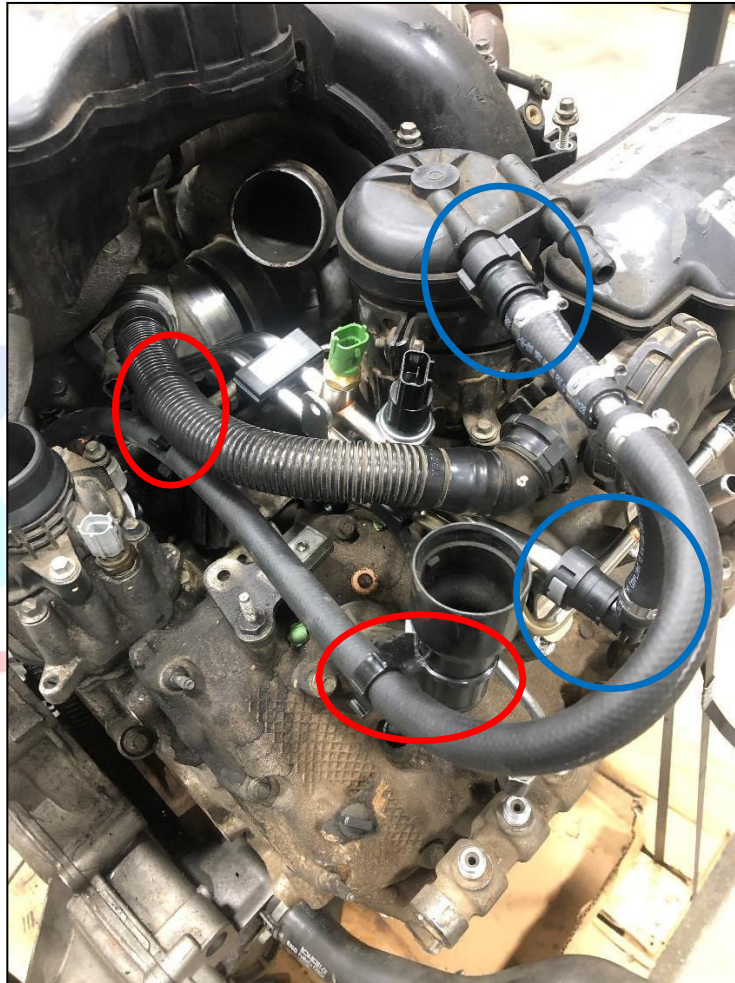

Figure 11: Hose Routing & Zip Tie locations
- d. Connect Quick Connect Fittings: Firmly push the quick connect fittings onto their corresponding barbs (as shown in Figure 11) until you hear a distinct click. Tug lightly to ensure they are fully seated.
- e. Use Zip Tie Hose Clips: Employ the provided zip tie hose clips to prevent the hose from chafing against nearby components (refer to Figure 11).